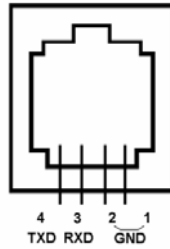

Figure 15. Serial port pin out on an 8408 hand controller
- Serial port: connect the HC to a Computer via a RS232 to 4 pin 4 wire (4P4C) RJ-9 cable (iOptron item# 8412). The pin out of the serial port is shown in **Figure 15**.